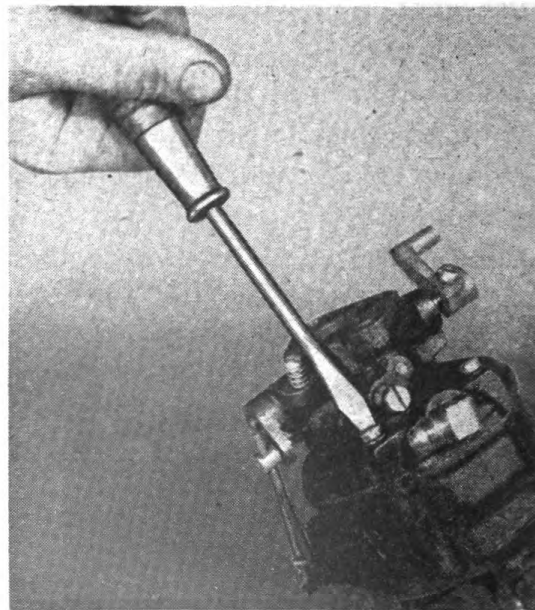

Figure 103
(1) Remove upper half or throttle body from the lower half or main body by taking out the four screws (See Figure 103).